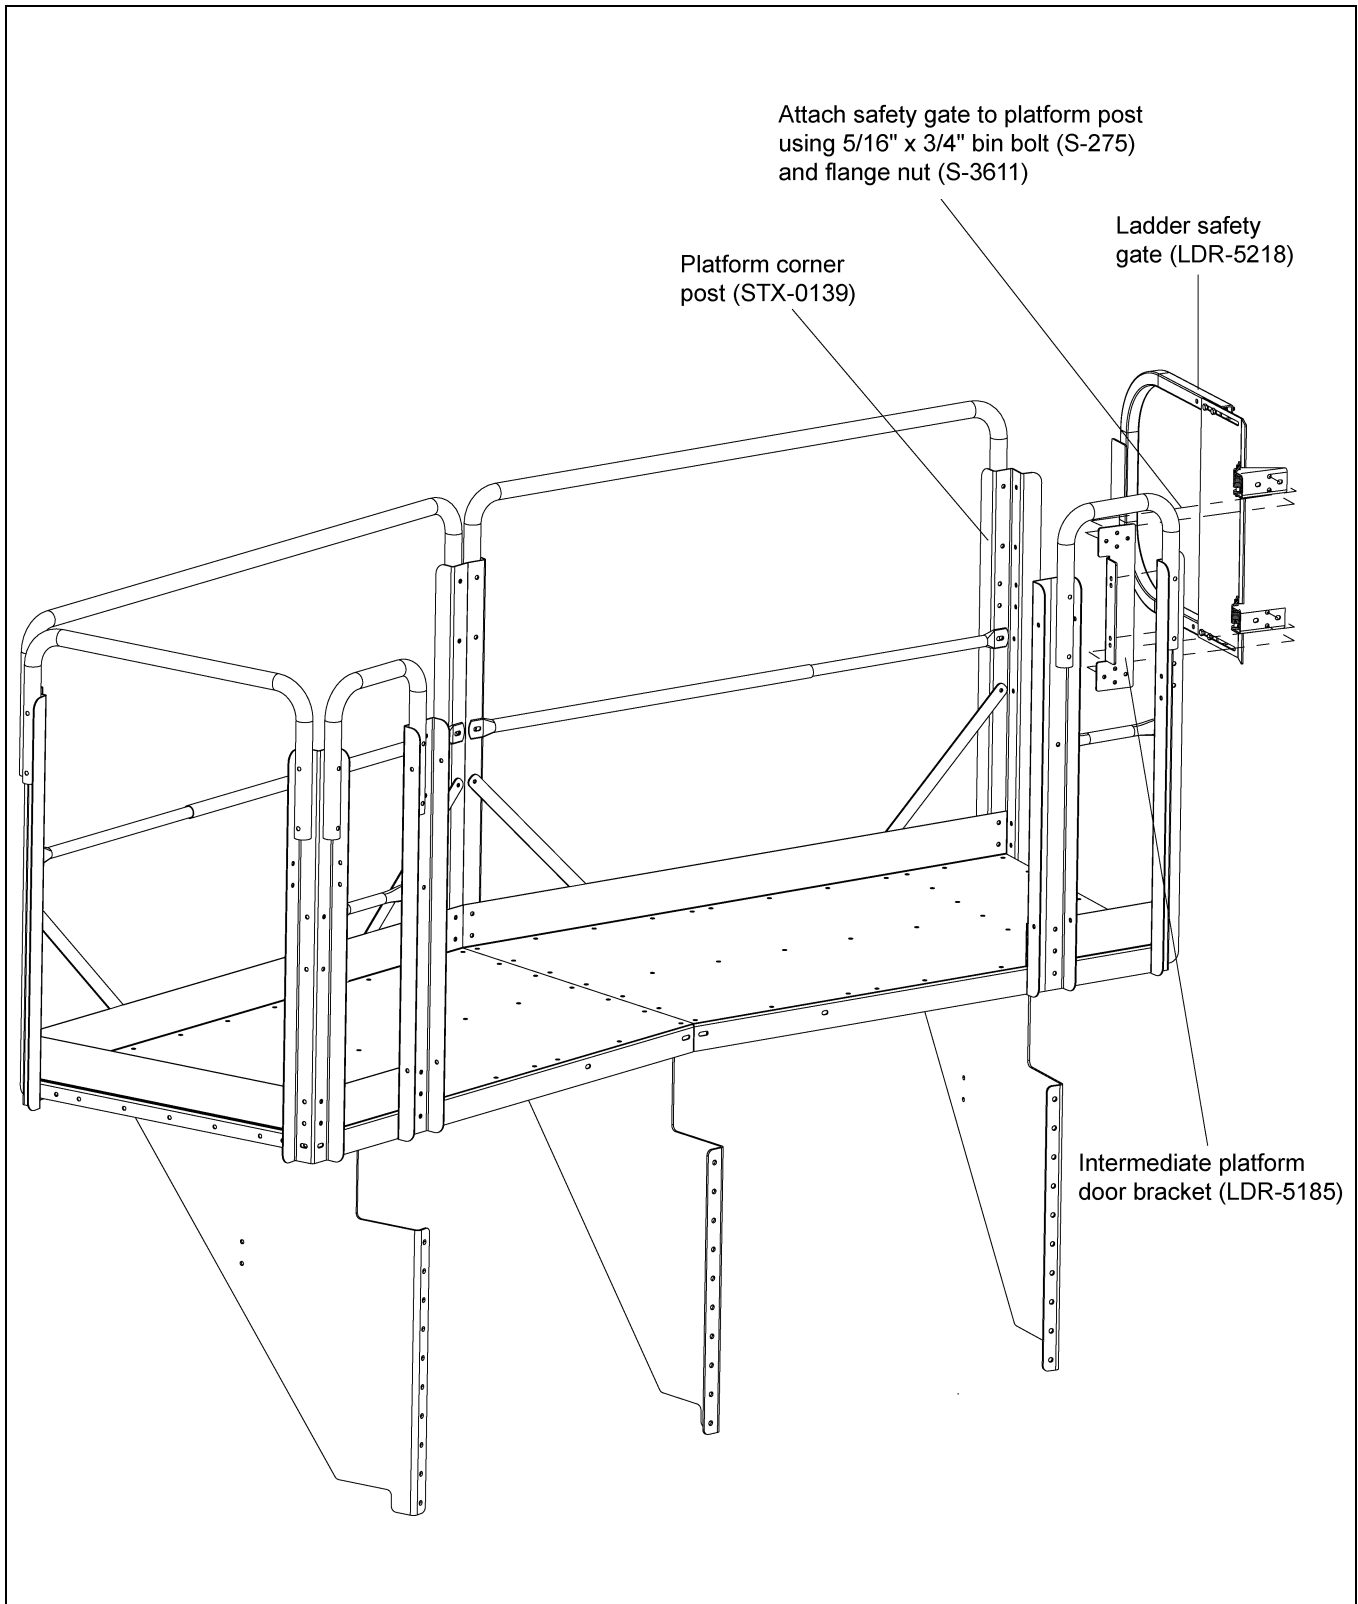

Figure 4Q
4. Attach the platform gate bracket to the gate before attaching it to the inside platform post using 5/16" hardware. (See Figure 4Q.)